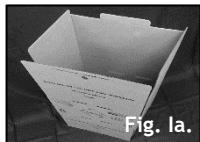

Fig. 1a.
2. Form Transport Carton into an open rectangle. (See Fig. 1a.)